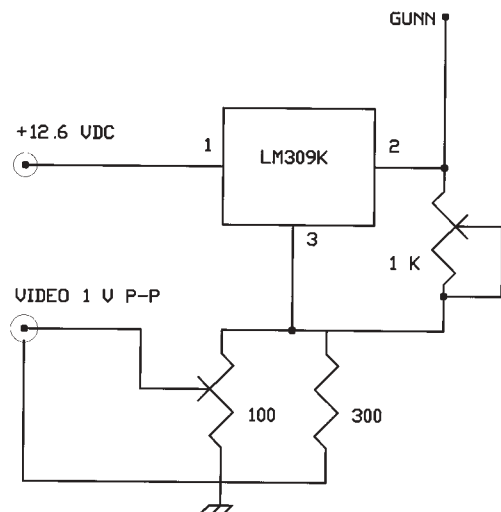

Figure 1. A Super Simple ATV Modulator.
2. TV: Gunn oscillator modulated by the HB9AFO "World's Simplest ATV 10 Ghz Transmitter". The circuit of Figure 1. is essentially the "World's Simplest ATV Transmitter" by Michel Vonlanthen, HB9AFO, from the "Old Man" magazine of the USKA in Switzerland for Sept 1992. I added a video gain control. In use, the output marked to "Gunn" goes to the Gunn diode in a Solfan type unit. I have had good results with it by adjusting both the 1 k pot and the 100 ohm video gain for best pix and ensuring the Gunn does not exceed about 8.5 VDC. I believe it could also go to a varactor in a MACOM type Gunnplexor and go up to 20 VDC though of course a higher input voltage would be required. I have not tried modulating the varactor with this circuit. For the voltage regulator, I have tried other than the LM309K with NO good results.